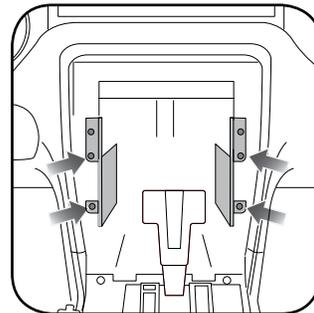

Fig. 1.5
4. Using (4) 7mm screws, reinstall the radio chassis brackets and set the screen brackets aside to be used later. (fig. 1.5)